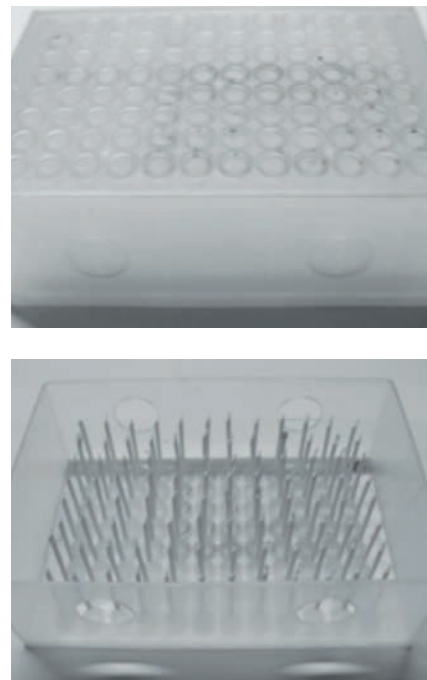

Figure 3. 96-well LPME equipment
We carried out the initial proof-of-principle experiments for LPME in 1998, and patented the work together with the university's technology transfer office. We were inspired to a large extent by the development of solid-phase microextraction (SPME) (3) and SLM extraction (4). Personal contacts put us in touch with Varian, Inc (Torrance, CA, USA), who licensed the patent application. We worked with scientists at Varian to develop a prototype 96-well plate system for LPME (Figure 3) – a prototype that was tested in several US pharmaceutical industry laboratories, and performed well. However, Varian